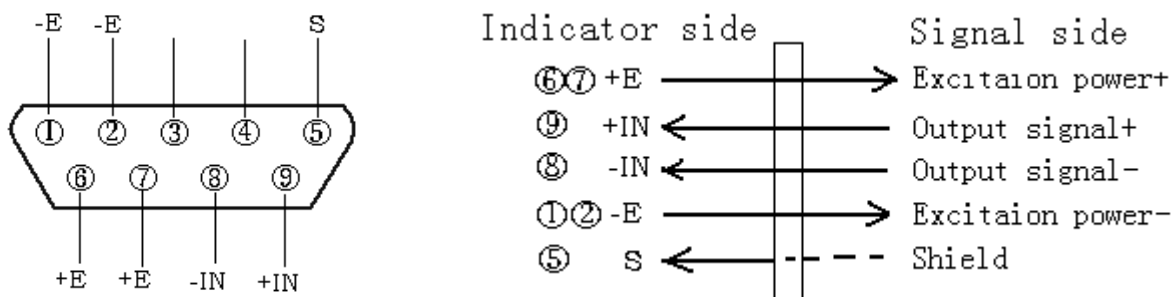

Figure 4c: Wire-connecting between load cell and 9-core D-shape plug
4.2.2 If the 9-core D-shape plug is used for the load cell connecting, see Figure 4c.